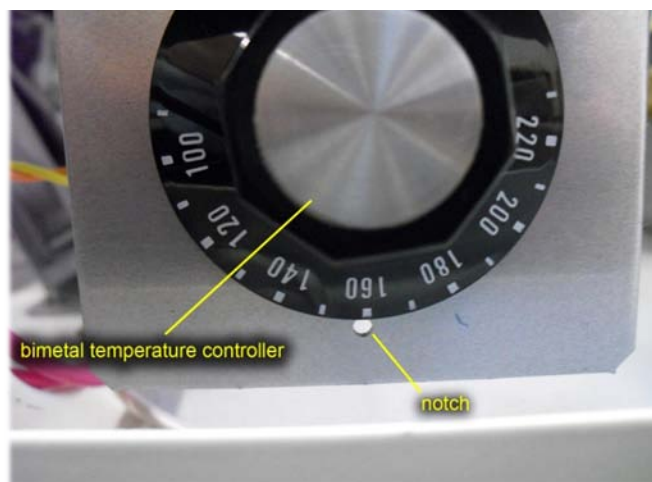

Figure 11
If the water level is above the heater and Error 20 remains, check the bimetal temperature controller setting (See Figure 11). The control setting is at the bottom of the unit behind the back panel. You must remove the back panel in order to access it. If the bimetal temperature controller is properly set at the notch to 160° C, the sensor may be defective and needs to be replaced. Please contact Yamato Scientific customer service at (408) 235-7725.